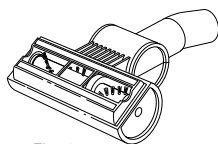

Fig. 25
- 3 Turn the Pet Hair Power Brush over to inspect the rotating brush and cut away any build-up of hair or string wrapped around the rotating bristle brush with scissors. **(Fig. 25)**